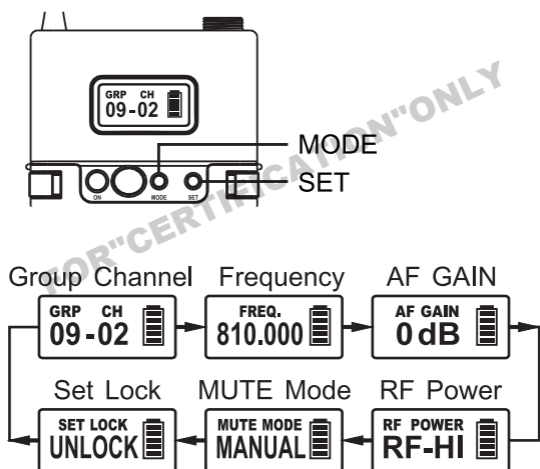

Fig. 5
1. Press MODE button **7** to move the cursor and access the following parameters in Fig. 5.
2. Press SET button **6** to activate parameters for changing. Press SET button during blinking to change a parameter value, Fig. 5.